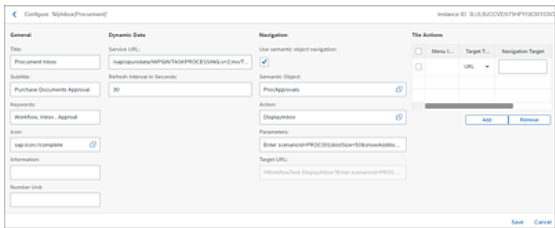

Figure 11.7 Configuring a Scenario-Specific Tile
4. Enter all dynamic tile details into the screen shown in Figure 11.7, as described in Table 11.2.